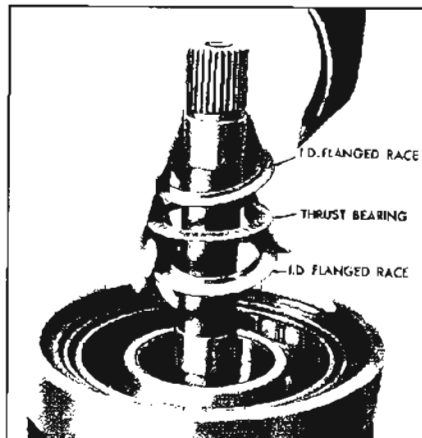

Figure 5-682
c. Install the second race, center flange up. See Figure 5-682.